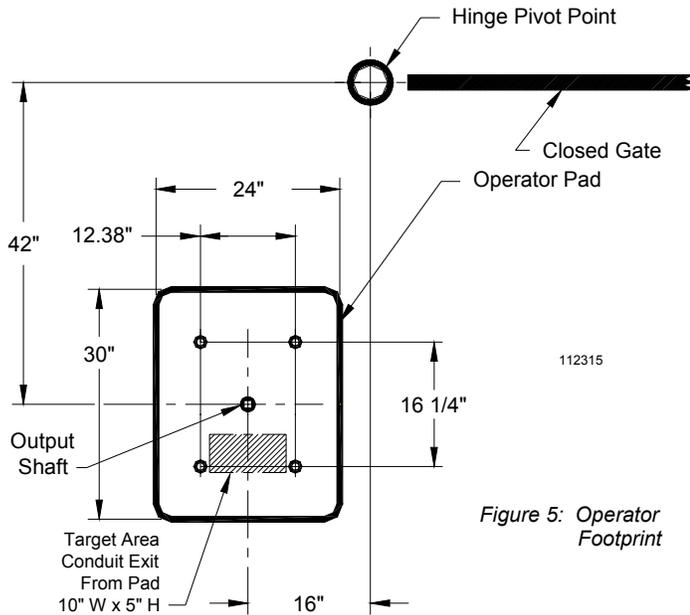
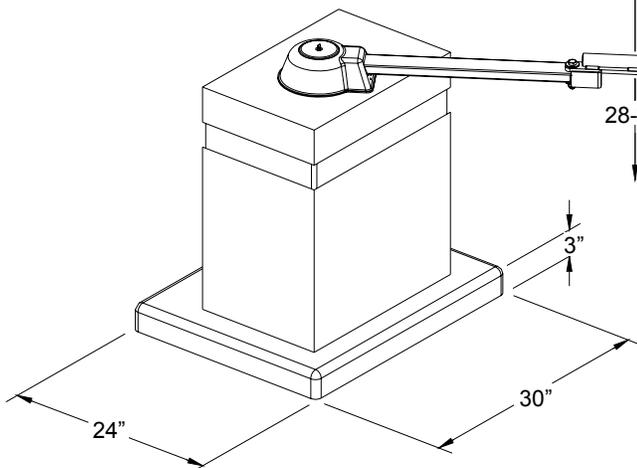
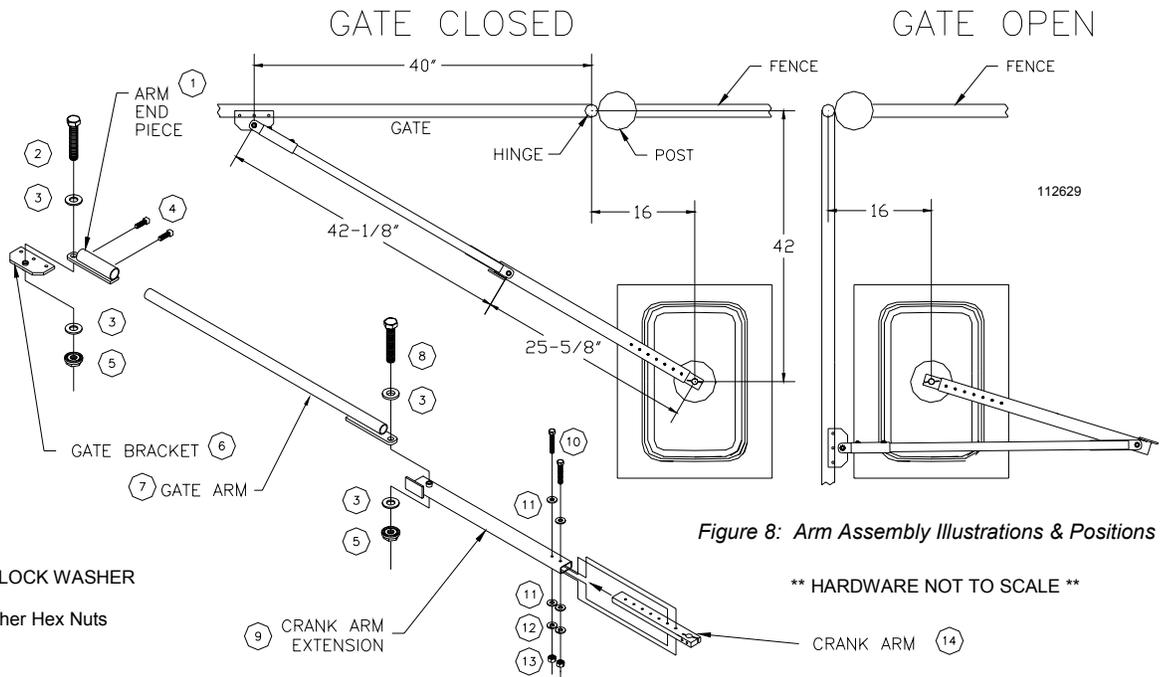

Figure 5: Operator Footprint
Figure 6: Operator Layout
Figure 8: Arm Assembly Illustrations & Positions
If no suitable concrete base exists, a pad must be poured. After completing the gate installation, place the operator pad at the appropriate location as illustrated in Figures 5 and 6. Consult local building codes for depth of base. Typical depths range from 24" to 36". In either case, if vehicles are going to be operated in the vicinity of the operator, consider installation of protective bollards in front of the operator.
To properly install a bi-parting gate system, it is necessary to use two (2) GS6000 operators in your design, one unit on each side of the opening. The operators can be linked via the control circuitry for Primary/Secondary (Master/Slave) operation. It is necessary to run an additional low voltage conduit between the two units. If desired, the service conduits can be routed up through the concrete pad. The conduits should exit the concrete pad in the 5" x 10" target area as illustrated in Figure 5. The end of the conduits should protrude a maximum of one (1) inch above the concrete surface.
The recommended procedure for attaching the GS6000 to the concrete pad is first to locate and drill the hole for the mounting hole nearest to the gate post. Locate this hole by referring to Figures 5 and 6 (Page 6) and Figure 8 (Page 10). Figure 5 features an aerial view of the operator footprint and concrete pad outline for a *left*-hand mounted GS6000 operator with gate. Figure 6 features an isometric view of a *left*-hand mounted GS6000 operator with gate. Figure 8 features an aerial view of a *right*-hand mounted GS6000 operator with gate and an isometric view of the gate arm assembly in a exploded fashion. All dimensions are applicable to either the left-hand or right-hand views, transpose them as necessary to your particular installation. **Ensure the operator is placed on the concrete pad such that the center of the output shaft is 42" vertically and 16" horizontally away from the gate center hinge point, as illustrated in Figure 5. These are the critical dimensions for this part of the installation.**
After drilling, place an anchor bolt in the initial hole, then reset the operator mounting hole over that bolt. Measure, re-measure, align, mark and drill the remaining three holes, again referring to Figures 5, 6 and 8. This can be accomplished with the operator in place or moved temporarily to the side if desired.
TO REVIEW: Make sure the correct position of the GS6000 from the center line of the gate hinge pivot point to the center line of the GS6000 output shaft is in accordance with the drawing of Figure 5.
Temporarily locate the Gate Bracket on the gate with C-clamps or by tack welding. The gate bracket is installed to the gate so the gate arm will be level when connected to the GS6000 output shaft. See Figure 6 on page 6 and Figure 8 on page 10 for positioning of the Gate Bracket. The 28-3/4" dimension as referenced in Figure 6 assumes a pad height of 3" above ground. Adjust the placement of the gate bracket on the gate at such a height that corresponds with the height of the concrete pad (add to the 28-3/4" dimension if the pad is higher than 3", subtract if lower. **The 40" horizontal dimension referenced in Figure 8 and the 28-3/4" dimension referenced in Figure 6 are the critical dimensions for this part of the installation.** Again this is a temporary placement, the gate bracket will be permanently mounted after the gate arm is assembled and installed. Move the gate to it's fully closed position and temporarily immobilize the gate in that position.
As shown in Figure 8, attach the Crank Arm Extension to the Crank Arm with the (2) 1/4-20 x 1-1/2" long bolts, (4) 1/4 internal tooth lock washers, and (2) 1/4-20 keps washer hex nuts, (Items 9 through 13) provided. For a standard installation use the two holes
Assemble the gate arm as shown in Figure 8, sliding the arm end piece onto the end of the arm tube and tightening the 5/16-18 x 5/8 long square head set screws. Again as a matter of note, the gate arm can be shortened (if necessary due to the gate bracket placement, etc.) by cutting off a length from the tube. Attach the gate arm to the crank arm extension and the gate bracket using the 1/2-13 x 2 bolt (at gate bracket), the 1/2-13 x 2-3/4 bolt (at the crank arm extension), the four 1/2 flat washers and two 1/2-13 nylock hex nuts as shown in Figure 8. The gate arm is now fully assembled with a total length of approximately 67-3/4"
With the Gate still immobilized in the closed position, the "elbow" will be up against the closed position stop on the Crank Arm Extension. At this time adjust the placement of the gate bracket and/or the length of the crank arm/extension or gate arm to ensure when the gate is fully closed the arm is in a straight and locked position (from output shaft to gate bracket) as shown in the left illustration in Figure 8.
Move the Gate to the fully open, 90 degree position as shown in the right illustration in Figure 8. The crank arm/extension should fold back over the arm as shown. If it doesn't, some adjustment of the gate bracket or operator position may be necessary. With the gate in the fully open position, adjust the stop pall on the sprocket against the stop on the GS6000 frame and tighten the set screw. Open and close the gate several times until you are satisfied that the arm position is correct.
If this is a right hand (RH) installation (as shown in Fig. 8) the upper switch is the Close limit switch, if this is a left hand (LH) mounted operator (as shown in Fig. 6) the lower switch is the Close limit switch. Referring to Fig. 11, loosen the clamping screw and nut and the set screw on the Limit Switch Cam for the appropriate switch. Rotate the cam on the output shaft (clockwise as you look at the shaft from the control box if RH mounted, CCW if LH mounted) until it engages the Limit Switch and an audible "click" is heard. If resetting and the operator is under power the LED indicator on the control board can be used as an additional indicator that the switch has activated. Repeat this several times until you are confident that the position of the cam is such that the Limit Switch is just closed.
The GS6000 Control panel is configured at the factory for right hand operation - where the operator is mounted to the right of the gate leaf as you look at the installation from the inside (secured side, as shown in Fig. 8).
operator. For this installation, one operator must be mounted and configured for Left Hand operation and the other mounted and configured for Right Hand operation. For configuration see paragraph directly preceding, for an illustration of LH mounting see Fig. 6, page 6 and for an illustration of RH mounting see Fig. 8, page 10.